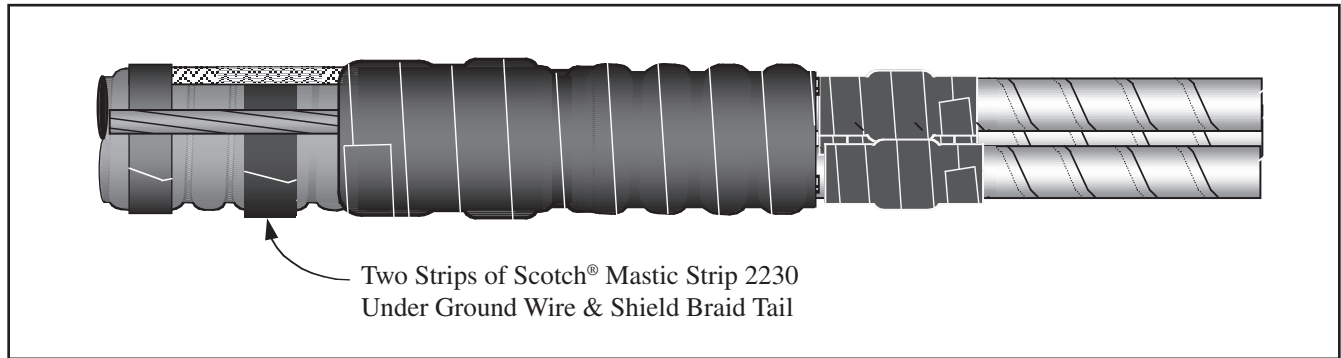

Figure 8
3.11 Wrap two strips of Scotch® Mastic Strip 2230 (one on top the other) over cable jacket. Locate the mastic strip directly under the shield braid solder block and ground wire (Figure 8).